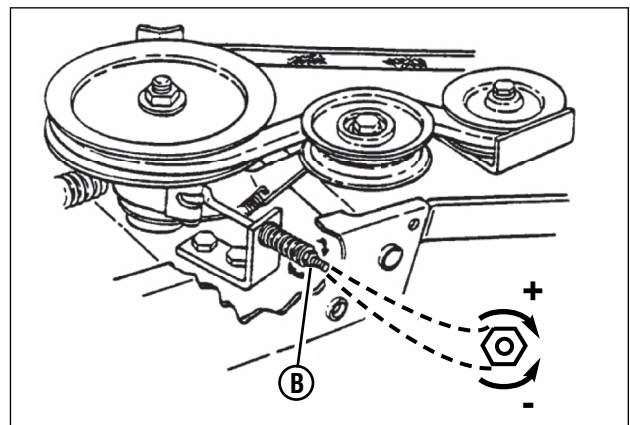

Figure 33: Adjusting blade brake tension
3. If the dimension is greater than 3-1/4", rotate the brake adjustment nut (**A**, **Figure 33**) clockwise to increase brake tension. If the dimension is less than 3", rotate the nut counter-clockwise to decrease brake tension.